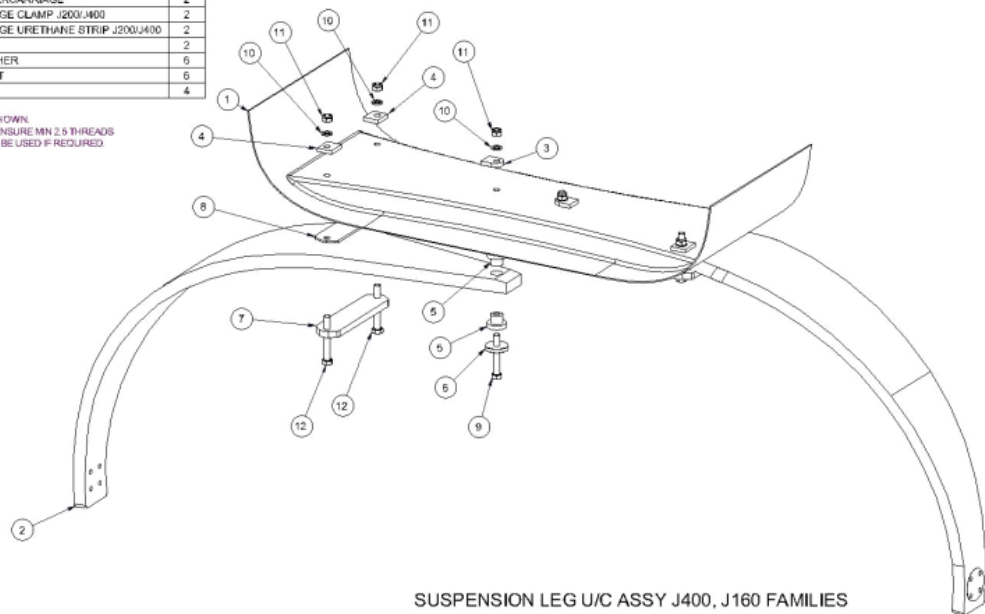

Figure 46 – J230-D Main Undercarriage Assembly (Type 2)
- 3. For the curved undercarriage leg show in Figure 46, tighten outboard clamp bolts/nuts (2 OFF). Torque to “solid laminate” value give in Table 2.